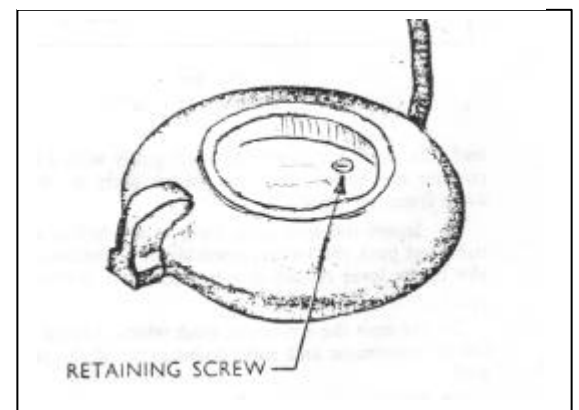

Fig 7.
6. To separate the upper and lower halves of the switch body, it will be necessary to remove the third screw now exposed by removal of the horn contact (Fig. 7.) the nut of which has also been unsoldered.
4. Fit the upper half of the switch body to the lower half, and secure by means of the retaining screw and nut (See Fig 7).